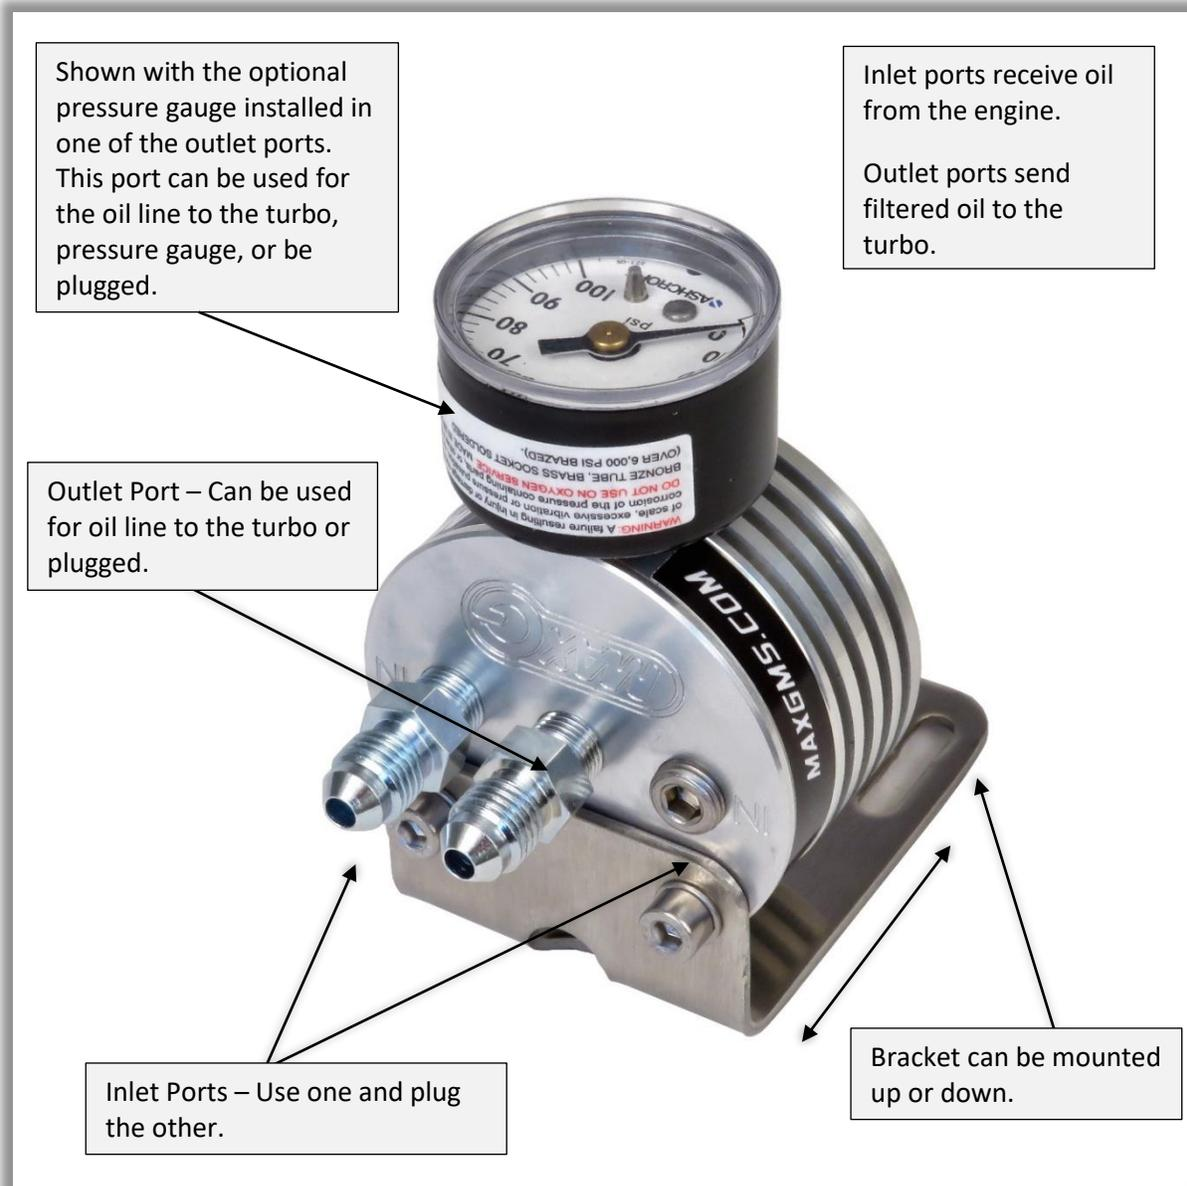

Figure 3
- 4) There are three approaches to hooking up oil lines; look the system over and decide which is most appropriate (see *Figure 3* for port locations on the Turbo Oil Filter/Cooler). The types of fittings and line length will vary from one installation to another. Give us a call if we can help determine your needs.